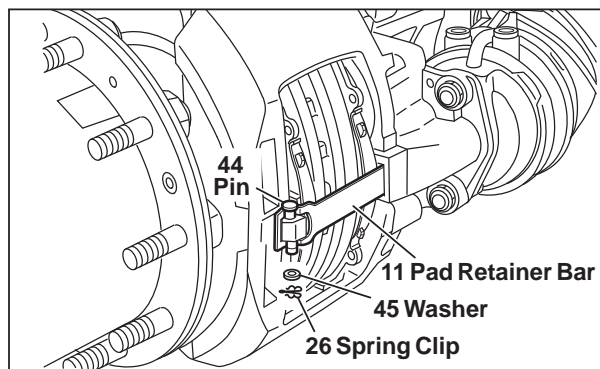

FIGURE 23 - RETAINER BAR REMOVAL
See Figure 23. While pressing down against the pad retaining bar (11), remove and retain the clip (26), washer (45) and pin (44). Remove the pad retainer bar (11). Bendix recommends that these items should be replaced with new (See available kits and parts, Section 5.0).